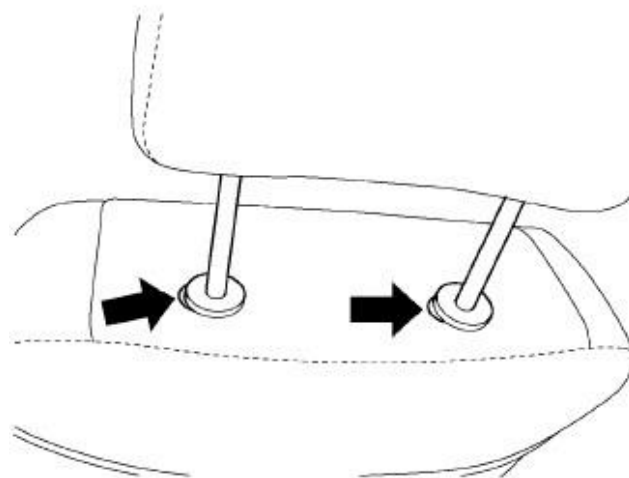

Figure 20 – Head Rest
3. Push in the buttons on front seat headrest sleeves then pull the headrest up and remove (Figure 20).